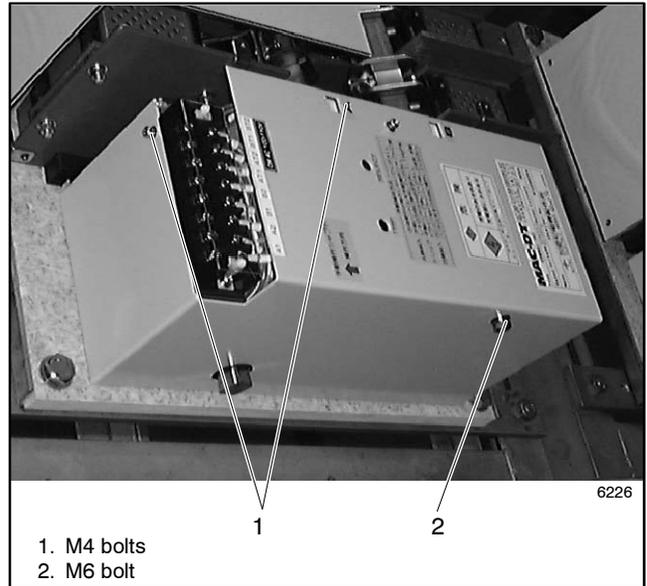

Figure 6-28 Removing the Cover
1. Remove the M4 bolts and the M6 bolt. Remove the cover from the mechanical unit. See Figure 6-28.